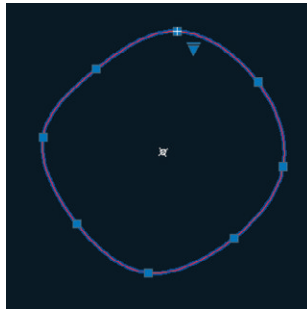

FIGURE 5.17 Adding additional fit points between the initial points
7. Repeat the previous step twice, adding additional fit points between the bottom, left, and top points (see Figure 5.17).